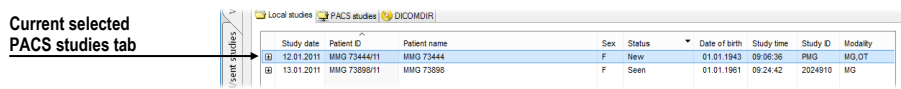

Figure 452 – Opened patient study from the PACS studies
- Finding and opening a required study stored in a remote DICOM device (see Figure 452) by taking the following steps: